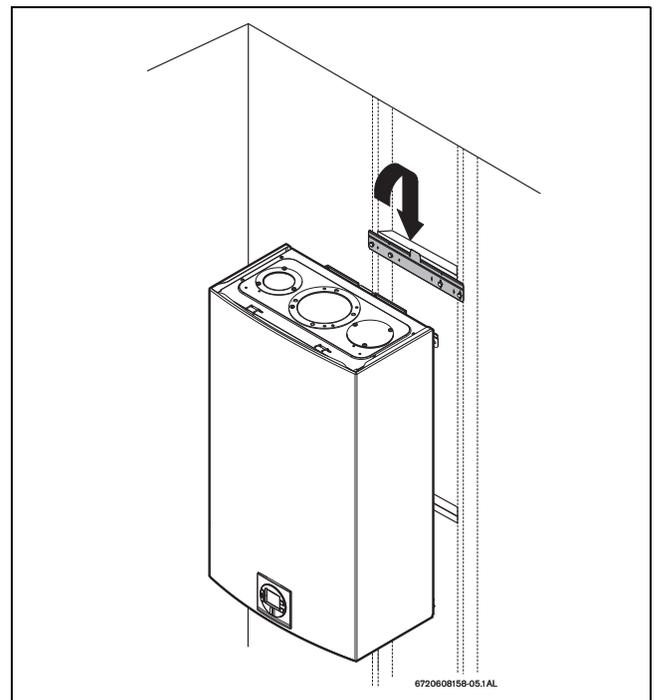

Fig. 28 Mounting the heater
- ▶ Hang the appliance on the bracket, see fig. 28, page 26.